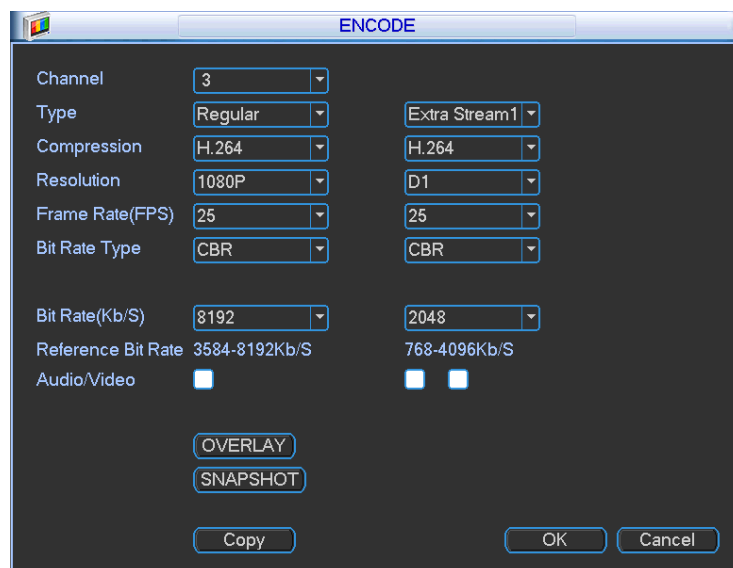
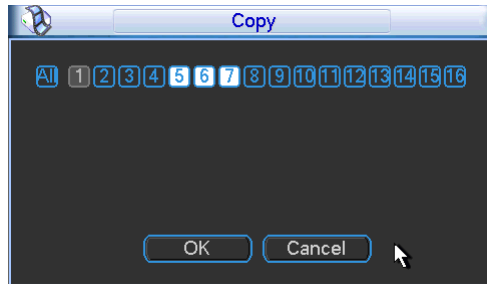
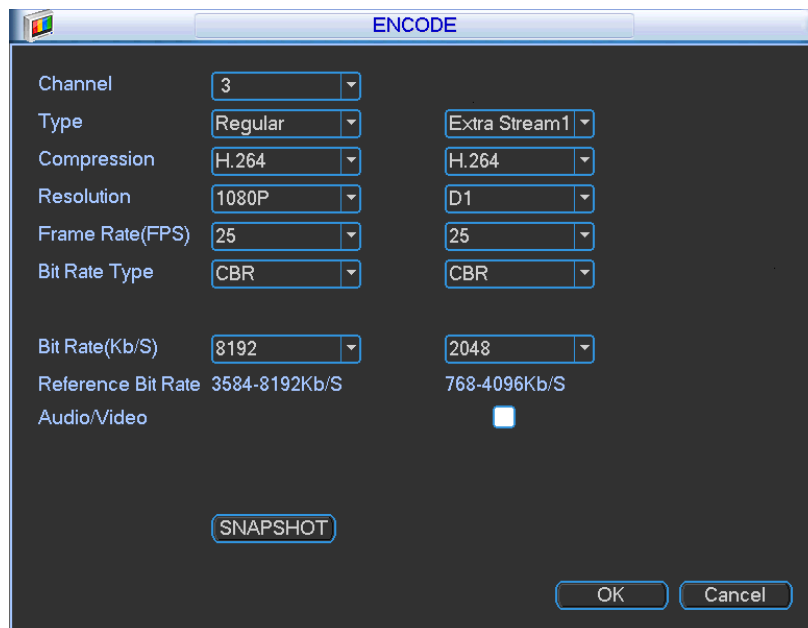

Figure 5-26
Figure 5-28
Figure 5-29
Encode setting includes the following items. See Figure 5-26.
- # Copy: After you complete the setup, you can click Copy button to copy current setup to other channel(s). You can see an interface is shown as in Figure 5-28. You can see current channel number is grey. Please check the number to select the channel or you can check the box ALL. Please click the OK button in Figure 5-28 and Figure 5-26 respectively to complete the setup. Please note, once you check the All box, you set same encode setup for all channels. Audio/video enable box, overlay button and the copy button is shield. See Figure 5-29.